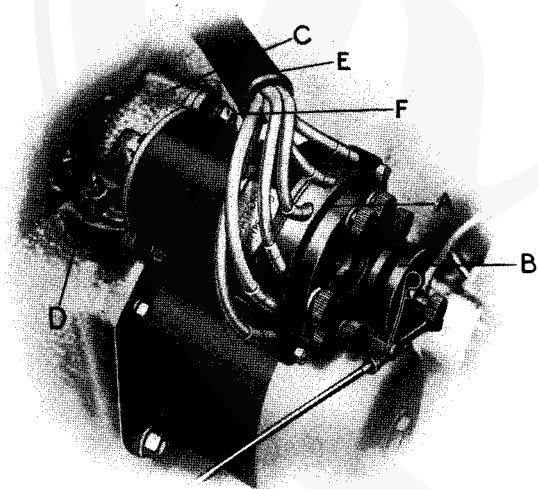

Fig. 35.
Fully retard the ignition lever, remove the distributor block (A - Fig. 35) and the contact breaker inspection cover (B), turn the engine until the contact points are just parting and note the position of the
distributor brush (see separate booklet), remove the chain case cover (C - Fig. 35) - this is secured by two nuts (D & E) holding it to the crankcase and one bolt (F) attaching it to the flange of the magneto - and unscrew the nut which holds the sprocket on to the magneto spindle; the unscrewing of this nut automatically withdraws the sprocket. Remove the two remaining magneto flange nuts and the magneto can then be withdrawn from the crankcase.